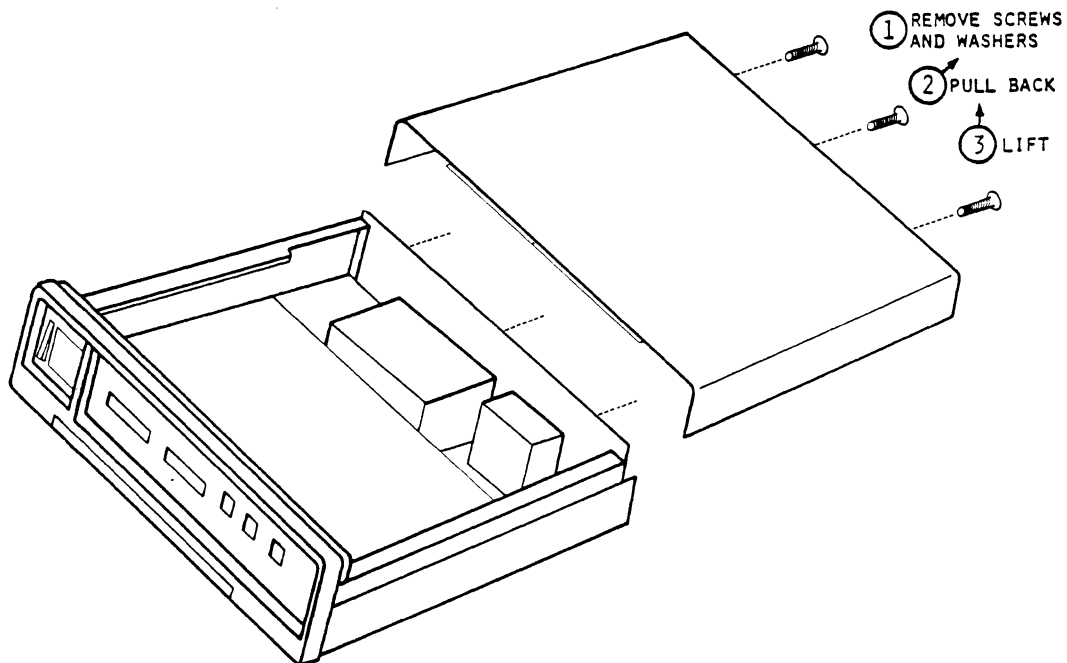

Figure 5-2. Z-SCAN Top Cover Removal
3. Remove the three screws and washers that secure the top cover of the unit at the top left, center, and right of the rear panel, as shown in Figure 5-2. Store the screws and washers in a safe place.